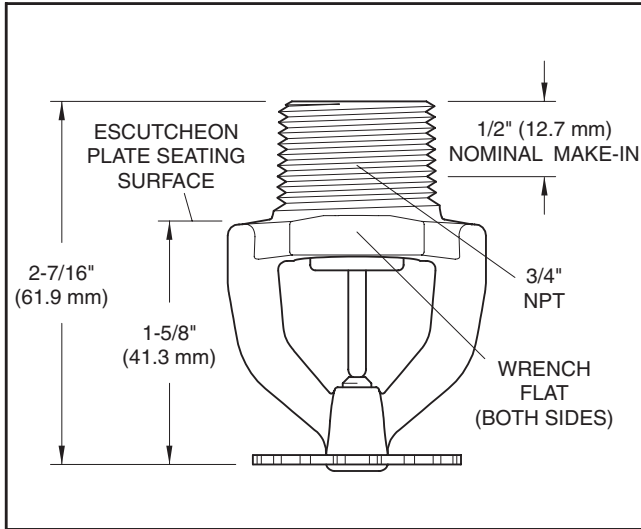
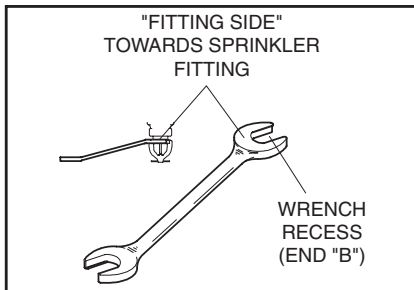

Figure 1
Figure 3
Step 3. Wrench tighten pendent sprinklers using only the W-Type 3 (End B) Sprinkler Wrench. Wrench tighten the recessed pendent sprinklers using only the W-Type 5 Sprinkler Wrench. The wrench recess of the applicable sprinkler wrench (Ref. Figure 3 and 4) is to be applied to the sprinkler wrench flats (Ref. Figure 1).